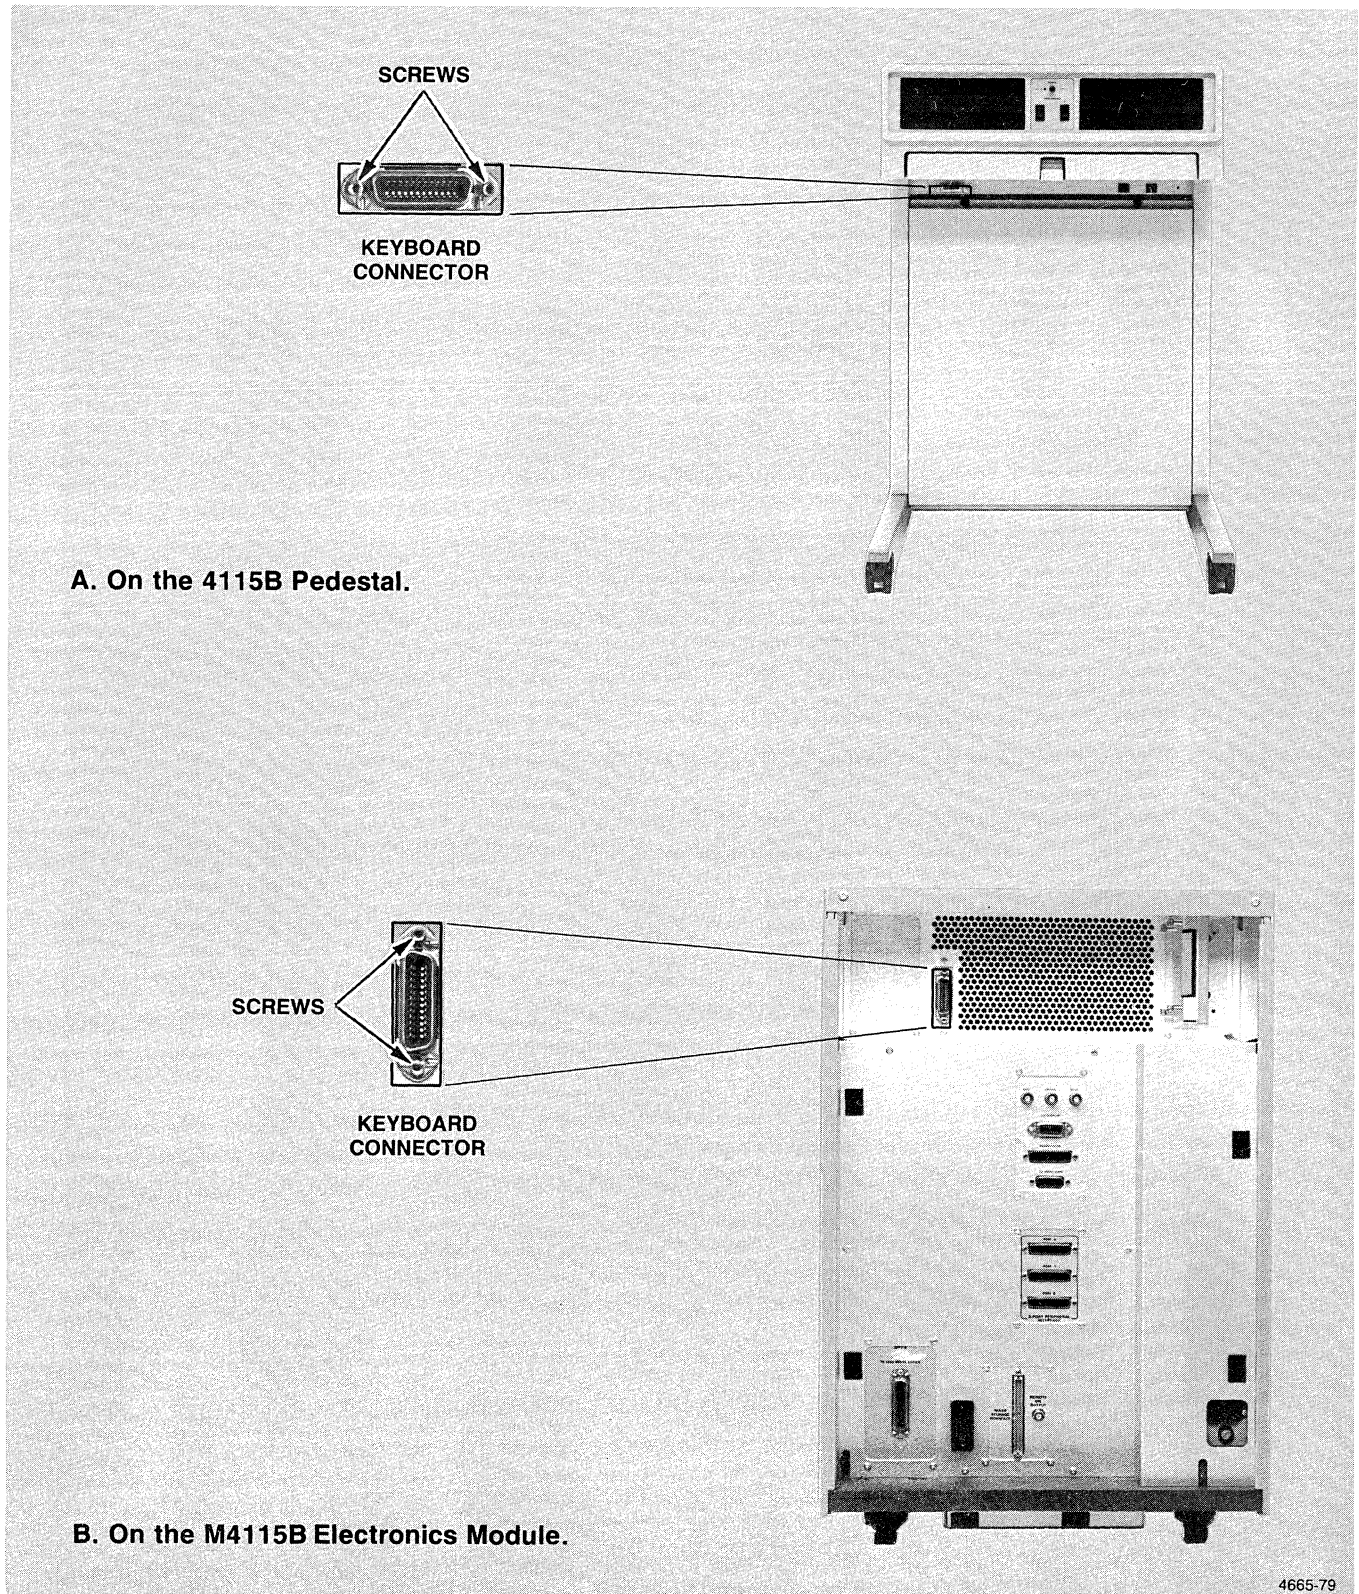

Figure 2-22. The KEYBOARD Connector.
- The Keyboard Connector. On the 4115B terminal, the keyboard connects to the front of the pedestal by a coiled cable; on the M4115B terminal, the keyboard connects to the rear of the electronics module by a non-coiled 9-foot cable. Figure 2-22 shows the KEYBOARD connector on both terminals. To attach the cable on either terminal, plug it in, and then secure it with the two screws provided.